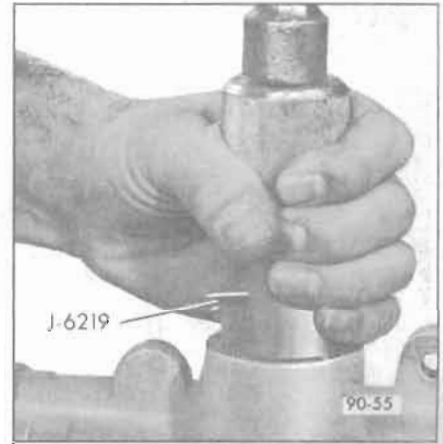
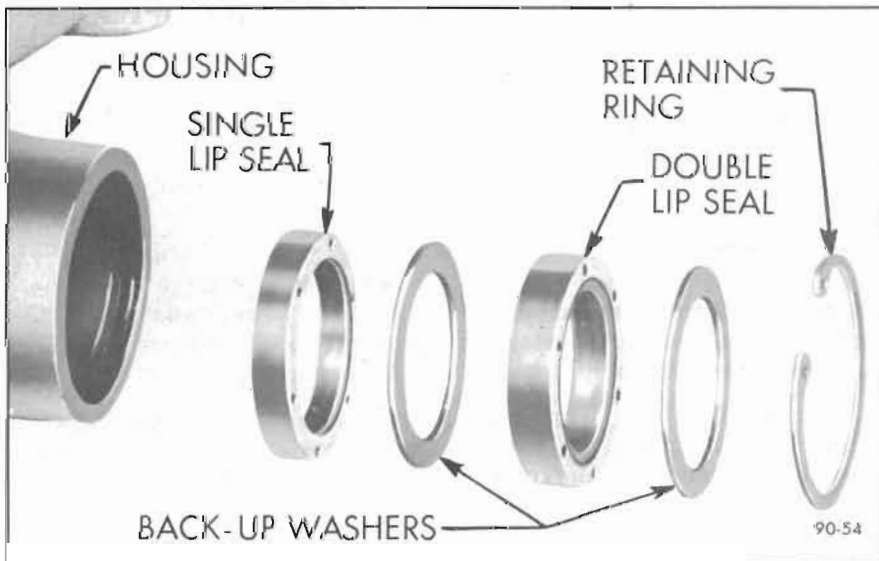

Figure 90-55—Installing Pitman Shaft Seals
Figure 90-54—Pitman Shaft Seals
2. Lubricate new pitman shaft seals in automatic transmission oil. Install the inner, single lip seal in bore first, then a back-up washer. See Figure 90-54. Using Tool J-6219, drive the seal and washer in far enough to provide clearance for the outer seal, back-up washer and retaining ring. See Figure 90-55. The inner seal must not bottom on the counterbore. Install the outer double lip seal and the second back-up washer in bore only far enough to provide clearance for the retaining ring with Tool J-6219. Install retaining ring with No. 3 Truarc Pliers Tool J-4245, making certain that ring is seated properly.